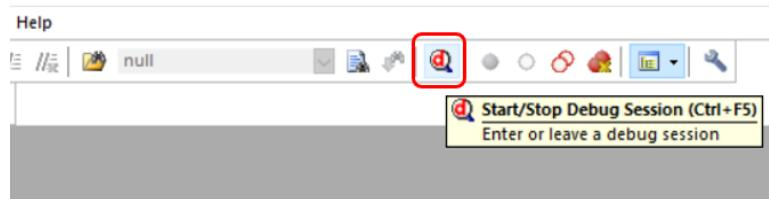

Figure 7.20: Keil IDE: Debug Button
2. Press the “debug” button to bring up the debugger interface (See Figure 7.20).
- To exit the debugging session, press the “debug” button again (see Figure 7.20).